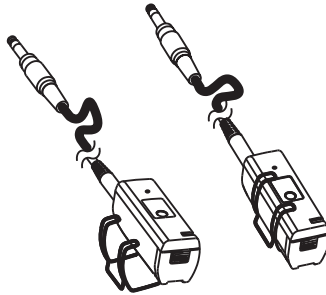

Fig. 42-3
- (C) Install the clip on MT-58, Fig. 42-3.